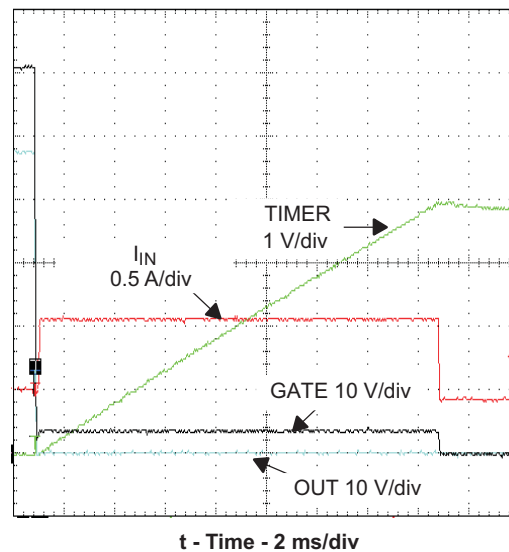
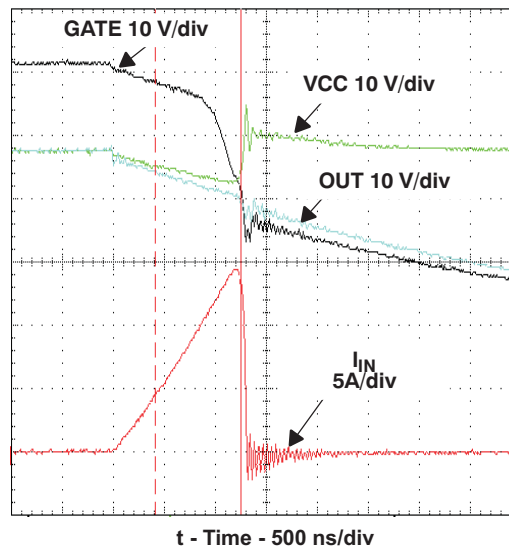

Figure 15. Current Limit Overview
Figure 16. Current Limit Onset
7.4.4 Response to a Hard Output Short (Figure 15 and Figure 16)
Figure 15 shows the short circuit response over the full time-out period. The period begins when the output voltage falls and ends when Q1 is turned off. Q1 current is actively controlled by the constant power engine and gate amplifier circuit while the TIMER pin charges C_T to the 4-V threshold causing Q1 to be turned off. The TPS2490 latches off after the threshold is reached until either the input voltage drops below the UVLO threshold or EN cycles through the false (low) state. The TPS2491 goes through a timing sequence before attempting a restart.
The TPS249x responds rapidly to the short circuit as seen in Figure 16. The falling OUT voltage is the result of Q1 and C_O currents through the short's impedance at this time scale. The internal GATE clamp causes the GATE voltage to follow the output voltage down and subsequently limits the negative V_{GS} to 1 V to 2 V. The rapidly rising fault current overdrives the GATE amplifier causing it to overshoot and rapidly turn Q1 off by sinking current to ground. Q1 slowly turns back on as the GATE amplifier recovers; Q1 then settles to an equilibrium operating point determined by the power limiting circuit.
Minimal input voltage overshoot appears in Figure 16 because a local 100- μF bypass capacitor and very short input leads were used. The input voltage would overshoot as the input current abruptly drops in a typical application due to the stored energy in the input distribution's inductance. The exact waveforms seen in an application depend upon many factors including parasitics of the voltage distribution, circuit layout, and the short itself.